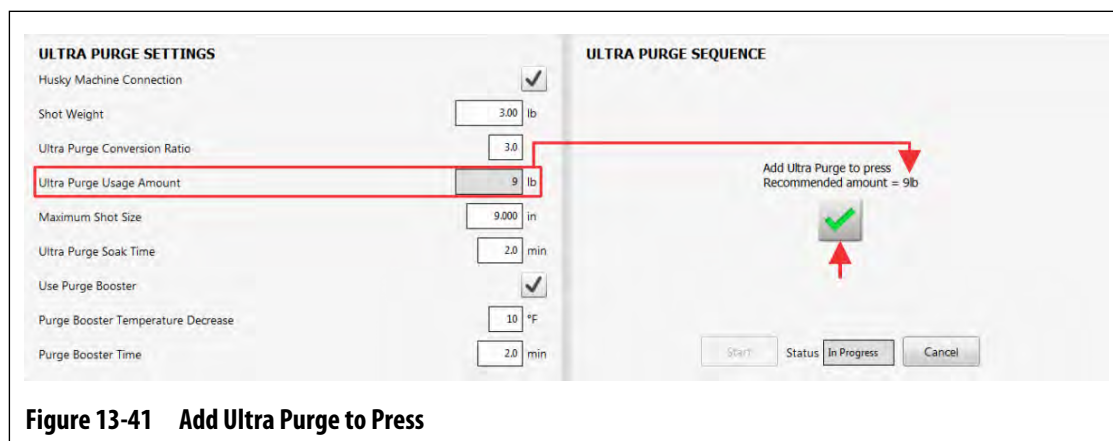

Figure 13-41 Add Ultra Purge to Press
- Add the recommended amount of Ultra Purge compound to the IMM (refer to Figure 13-41).